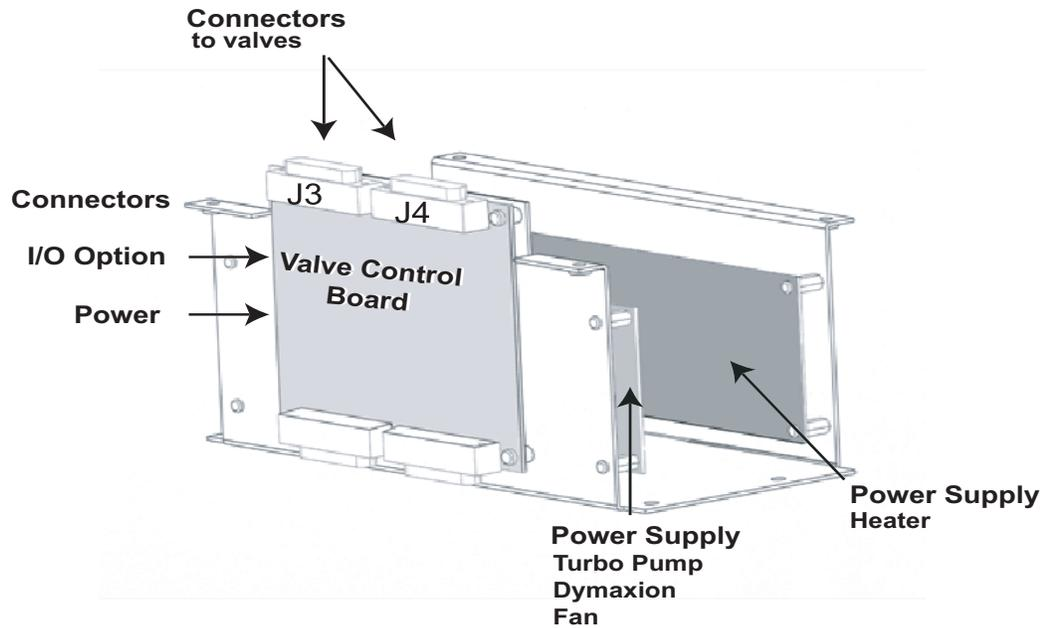

Figure 1-5.
- an inlet system consisting of one or two sets of eight, three-way electric solenoid valves (configurations of 8 or 16) and a valve control board (Figure 1-5);
There are two power supplies located in the U-shaped bracket in the electronics box. When viewed from the back of the analyzer, the left-hand power supply is used to power the turbo pump, electronics package and the fan. The right-hand power supply is used to power the heaters (Figure 1-5).